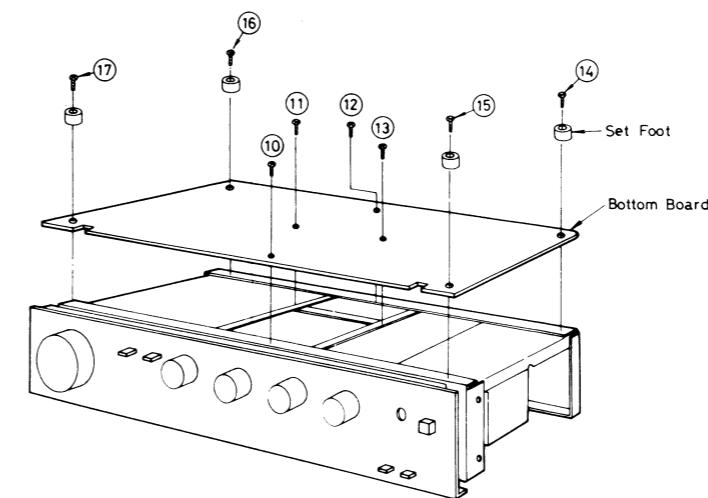

Fig. 3
1. Remove the 4 setscrews (⑩ ~ ⑬ in Fig. 3) used to secure bottom board and 4 setscrews (⑭ ~ ⑯ in Fig. 3) for the legs. Then the bottom board can be detached.